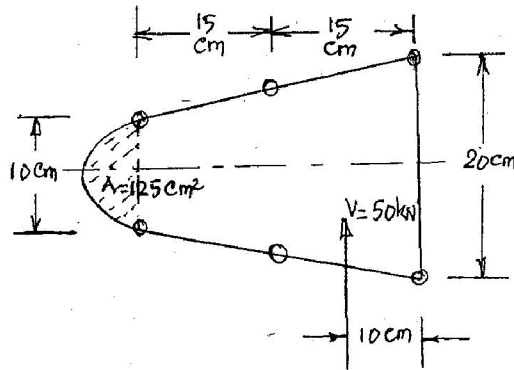

Fig. 2.
- (b) Obtain the shear flow distribution for the closed section shown in Fig. 2. Each stringer area is  $6.5 \text{ cm}^2$ .